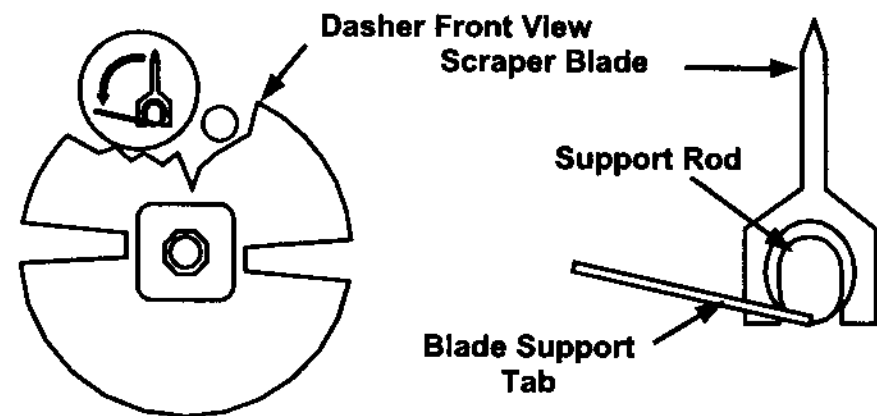
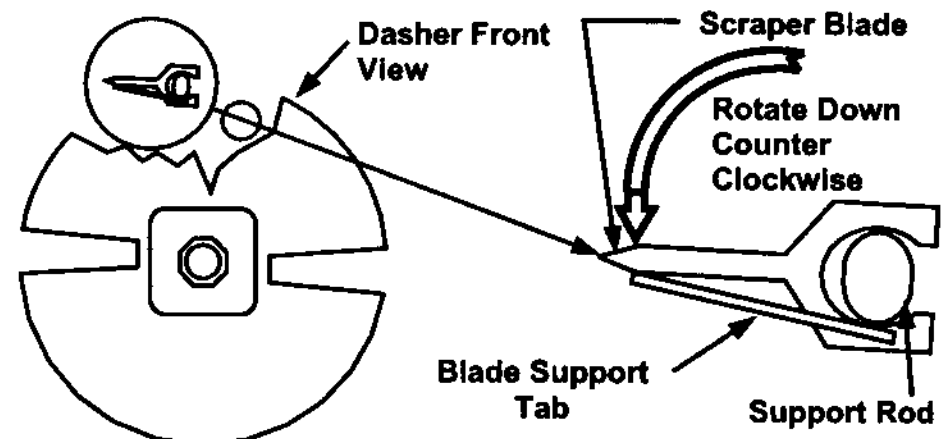
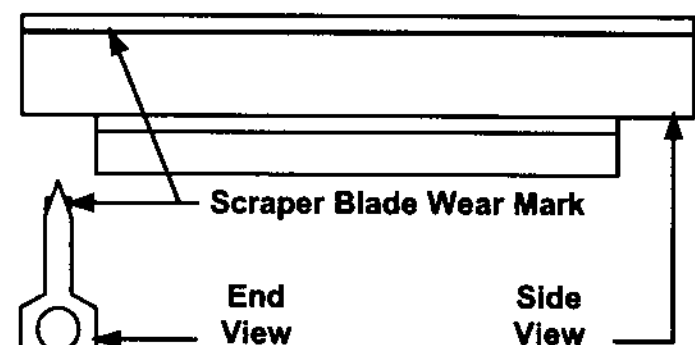

Fig. 25a
Fig. 25b
Fig. 25c
d. Install the scraper blades on the dasher assembly by holding the blades perpendicular to the tabs - Fig. 25a - and then snapping them over the flat area of the support rod. Then rotate the blades downward in a counterclockwise direction as viewed from the front of the dasher - Fig. 25b. **Note:** Reverse the blades each cleaning to maintain sharpness. In addition, the blades are equipped with a wear mark - Fig. 25c. When the blades are worn to this mark, they must be replaced with SaniServ part number 104984.